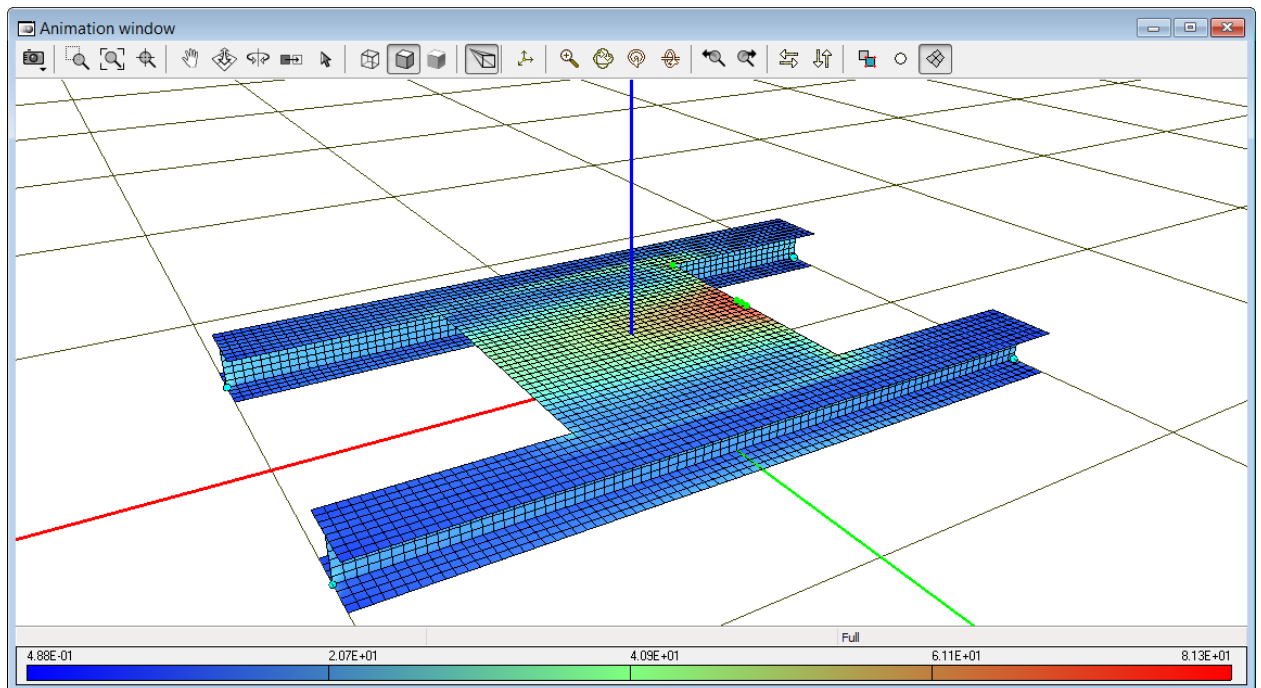

Figure 2.20. Highlighted nodes in the animation window
- Click **Close**. Selected nodes will be highlighted at the animation window with green, see Figure 2.20. Guide cursor to point to display node number and its position.